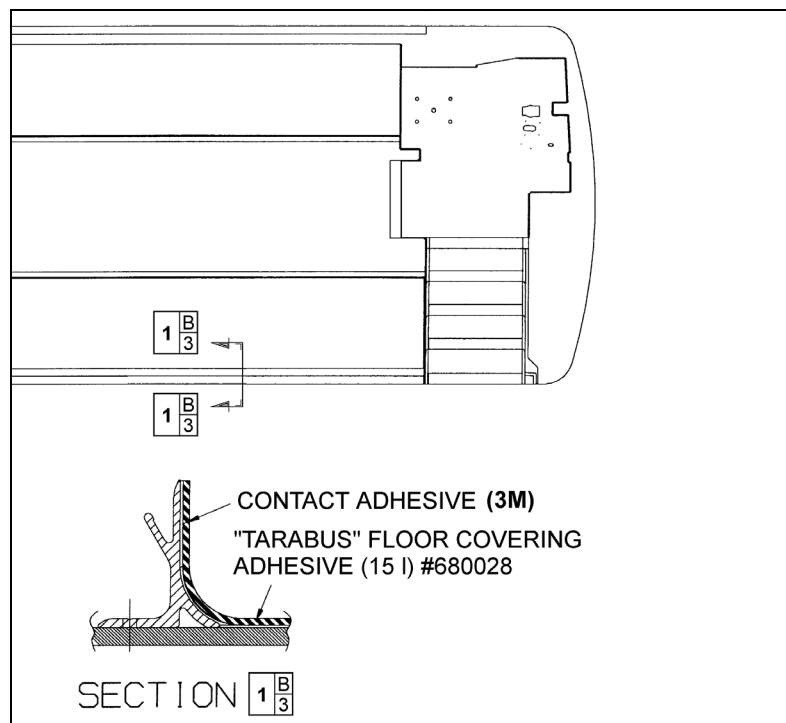

FIGURE 92: TARABUS FLOOR COVERING ADHESIVE APPLICATION
- Apply floor covering adhesive (680028) onto plywood using a serrated spreader with 1/8-inch serration. If required, apply contact adhesive (3M) (684655 or 684654) onto aluminum molding and also onto section of floor covering, which will be in contact with molding (refer to Figure 92).